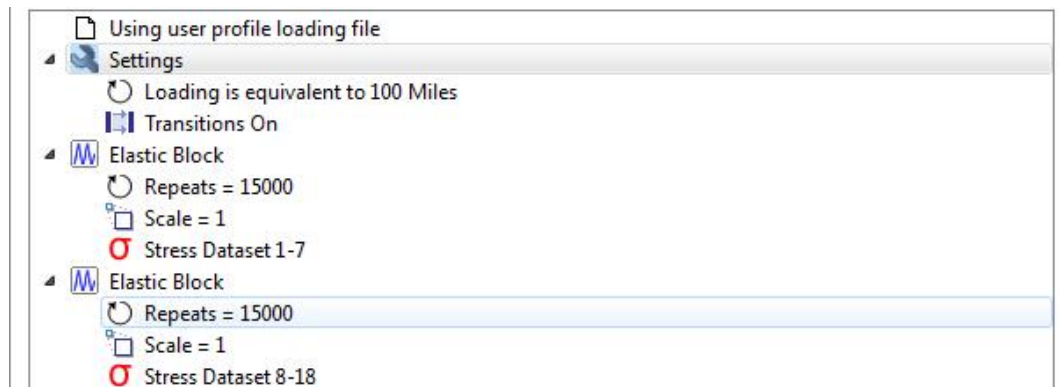

Figure 5-7: Completed load definition in *fe-safe* (component mode)
- 6) Define the loading so that it resembles that of Figure 5-7.